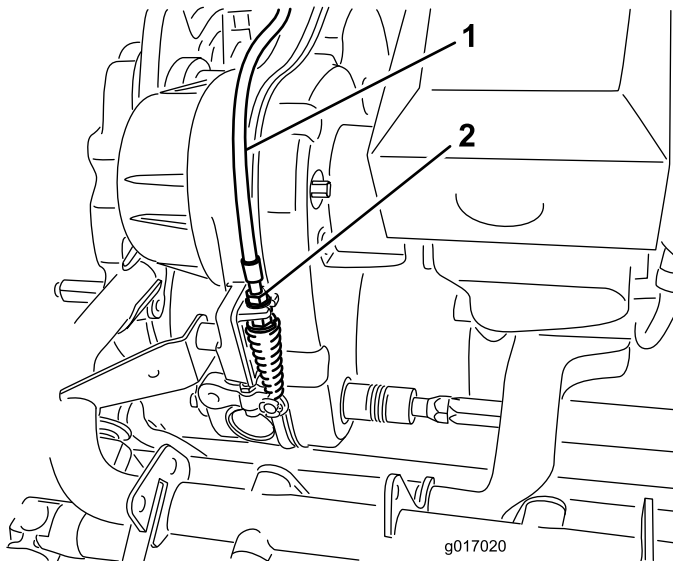

Figure 51
2. At the transmission bulkhead, adjust the reel control cable (Figure 51), to attain a spring length of 70.6 to 72.4 mm (2.78 to 2.85 inches).